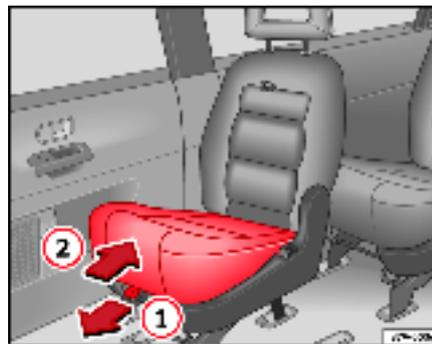

Fig. 41 Using the integrated child seat
- Pull the loop to the front in the direction of the arrow ⇒ fig. 41 .
- Push the seat cushion in direction of the arrow ② until it engages in position.